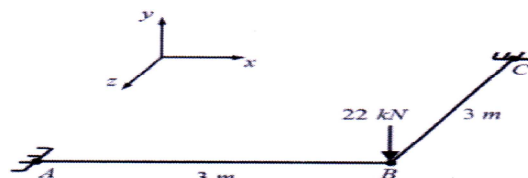

Figure 6
- Q6)** Analyze the grid structure ABC as shown in Figure 6 using stiffness matrix method. Take $E = 210 \text{ GPa}$, $G = 84 \text{ GPa}$, $I = 16.6 \times 10^{-5} \text{ m}^4$, $J = 4.6 \times 10^{-5} \text{ m}^4$ for all elements. [16]